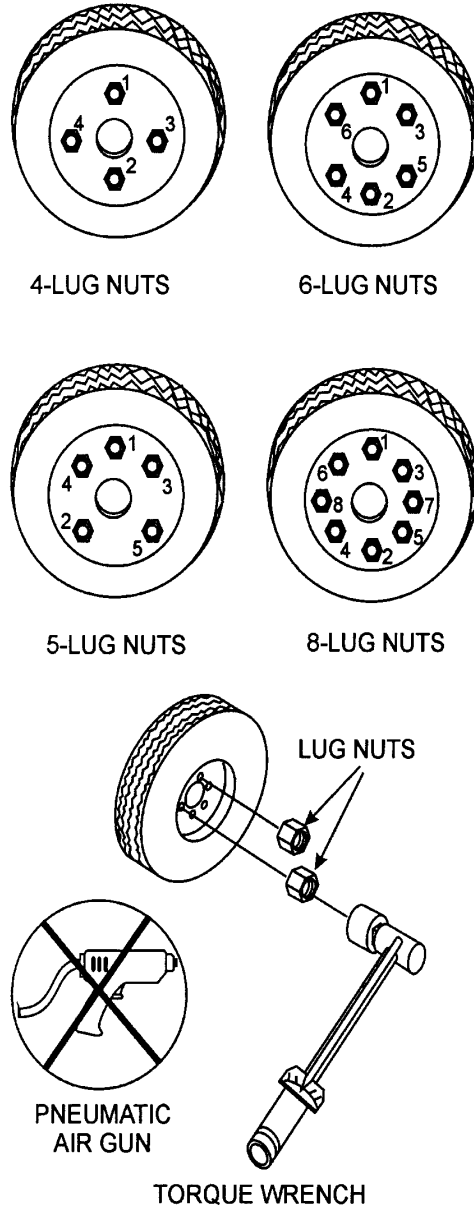

Figure 60. Wheel Lug Nuts Tightening Sequence
12. **Lug Nuts** — Used to secure the wheel to the wheel hub. Always use a torque wrench to tighten down the lug nuts. See Table 18 and Figure 60 for lug nut tightening and sequence.
2. Torque all lug nuts in sequence (see Figure 60). **DO NOT** torque the wheel lug nuts all the way down. Tighten each lug nut in 3 separate passes as defined by Table 18.